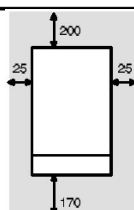

Fig. 5.21 – all dimensions in mm / wymiary w mm
- To allow maintenance procedures it is necessary to leave the minimum gaps indicated in Fig. 5.21.